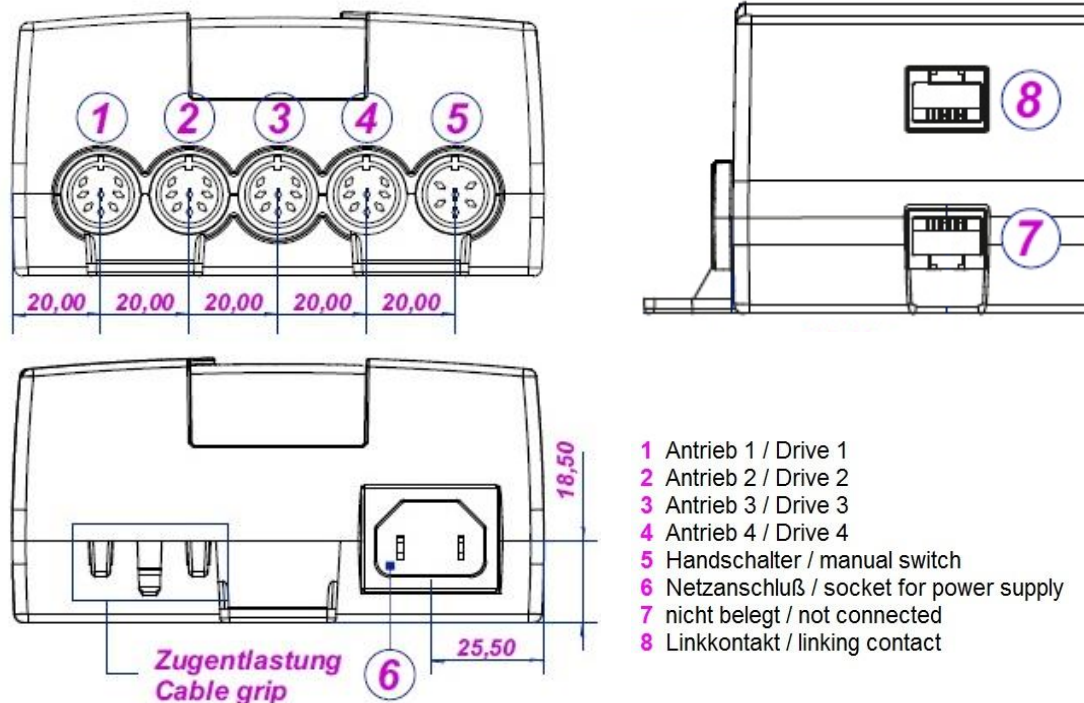

Figure 41 Connections of the electrical controller
- ➔ Connect the plug of the manual switch to the electrical controller using the appropriate input (Figure 41 Terminal No. 5)
- ➔ Connect the plug of the lifting elements to the electrical controller (Figure 41 Terminal No. 1-4)
- ➔ Connect the power cord to the appropriate input of the electrical controller (Figure 41 Terminal No. 6)
If more than four lifting elements are used in a Height Adjustment System, then the two electrical controllers must be connected to the connector contacts with a link cable (order number: 198 10134) (Figure 41: Connection no. 8). There is no contact made with connection no. 7 and thus, it remains open.